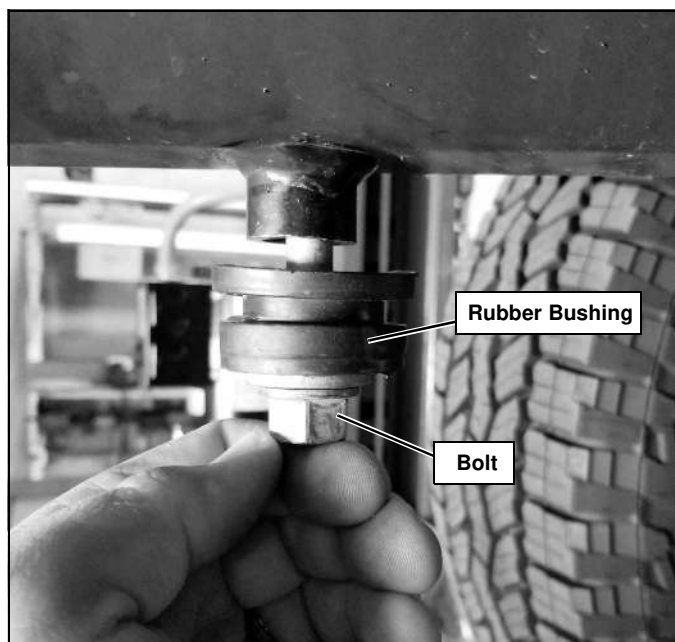

Figure 4
- Remove the rear tow hook bolts from both sides of the vehicle. Take the rubber bushings off the bolts and keep them with the hardware from step 3. (See Figure 4.)